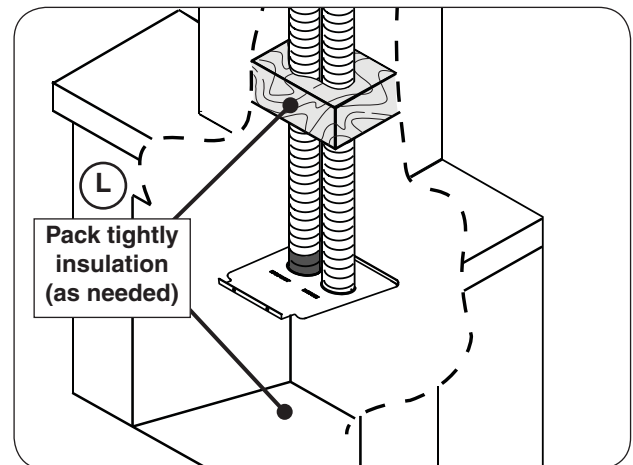

Fig. 26-3 Insulate chimney and fireplace
12. Pack tightly insulation (not included) in fireplace around pipes at damper area (inside bottom of chimney), ash trap, gas line access, holes, and any air openings, etc. See Fig. 26-3, L.